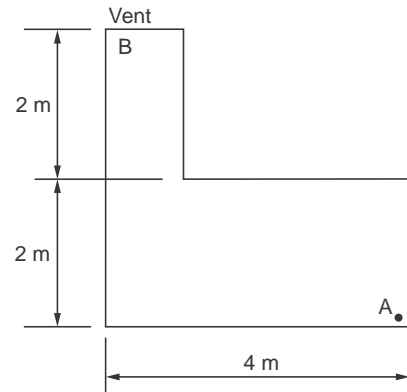

Figure P. 2.16
**Problem 2.16.** A tank as in Fig.P.2.16 is filled with water. The left side is vented to atmosphere. **Determine the acceleration** along the right which will cause the pressure at A to be atmospheric.